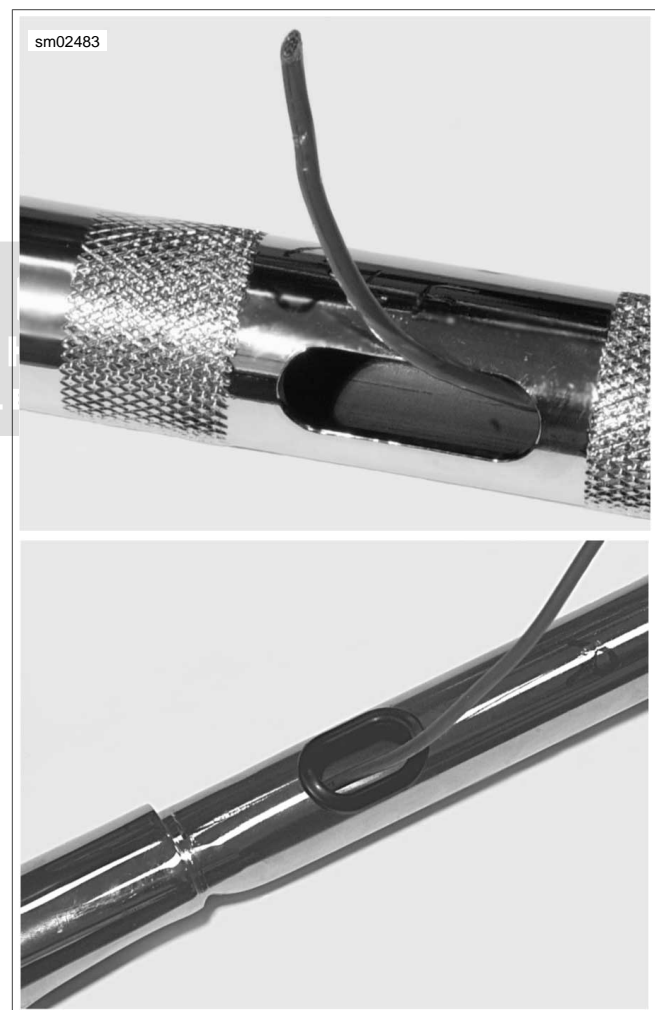

Figure 2-105. Wire Leader in Handlebars (Handlebars Removed from Motorcycle)
7. See Figure 2-105. Thread the wire leaders through the handlebar grommets and to the center hole.